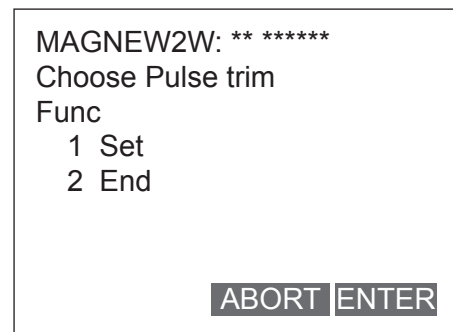
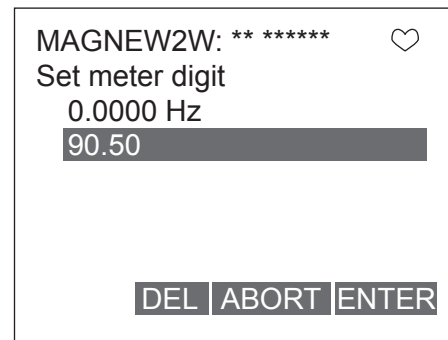

Figure 7-56
Figure 7-57
4. Figure 7-56 will then appear. When executing the adjustment, select "SET", and then press F4 (ENTER).
5. A numerical value input display (Figure 7-57) will then appear. Measure the pulse frequency from the converter and enter the frequency by the Hz into the device. Once the input has been completed press F4 (ENTER). The converter will start adjusting to 90 Hz automatically, and return back to the display as shown in Figure 7-56. Verify that the pulse output is 90Hz, and terminate the adjustment.